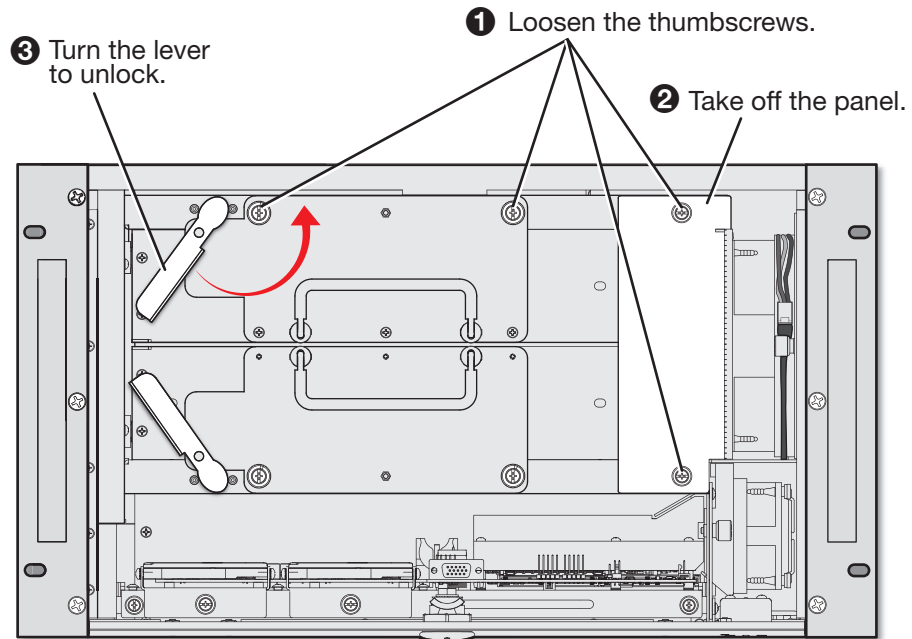

Figure 97. Unfastening the Power Supply — Quantum Ultra 610
1. Using a screwdriver, loosen the two thumbscrews on the power supply and on the protective cover panel (Quantum Ultra 610 only, see figure 97, **1**).
10. Reattach the protective cover panel (Quantum Ultra 610 only, see figure 97, 2 on page 101).